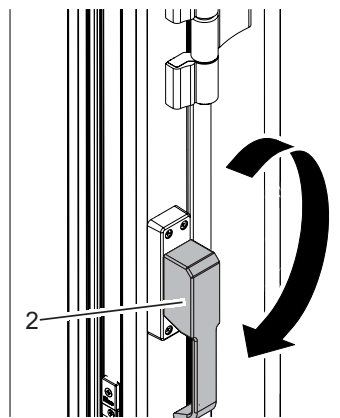

Fig. 9: Door lock bar down = door function
1. Move the door lock bar (Fig. 9) by 180° down to the door mode.
<p>Grease mushroom head with multi-purpose grease.</p> <ul style="list-style-type: none"> <li>☞ Only the mushroom head (Fig. 9/1) on the single action sliding panel must be greased.</li> <li>☞ Also grease the inclined bottom side of the mushroom head.</li> </ul>	Maintenance personnel